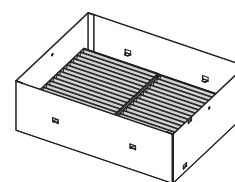

Fig. 3
- When the two air filter units are attached (Fig. 3), proceed to “Attaching the long life filter cover” (➔ page 277) next.